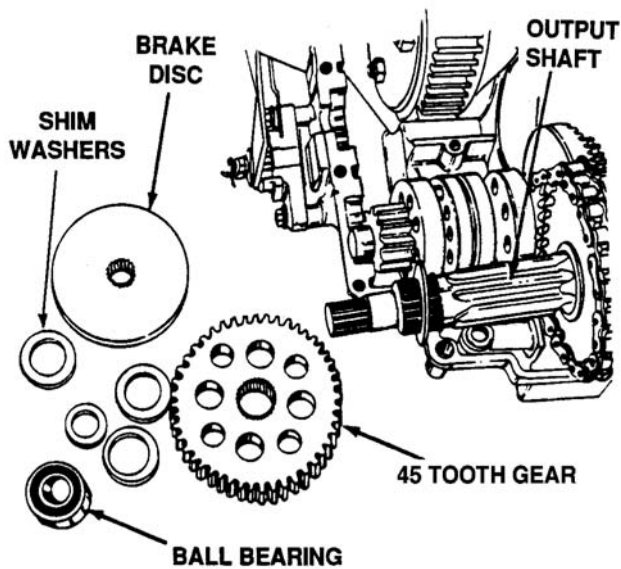

Figure 5-43. Removal of 45 Tooth Gear
19. Remove the 31 tooth gear, shim washer and spacer from the output shaft. Inspect for wear. Replace if necessary. See Figure 5-43.